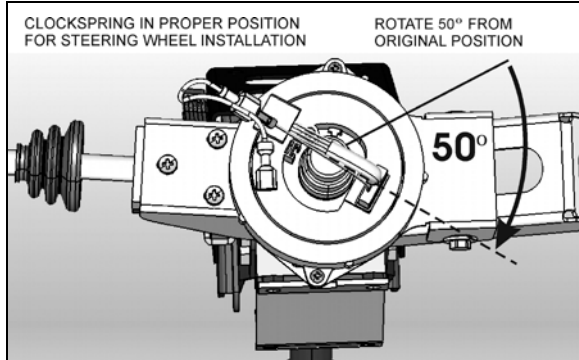

FIGURE 15: PROPER CLOCKSPRING POSITION
7. Break the paper seal and rotate the center part of the clockspring about 50° clockwise (Figure 15). This step is necessary for the installation of the steering wheel.